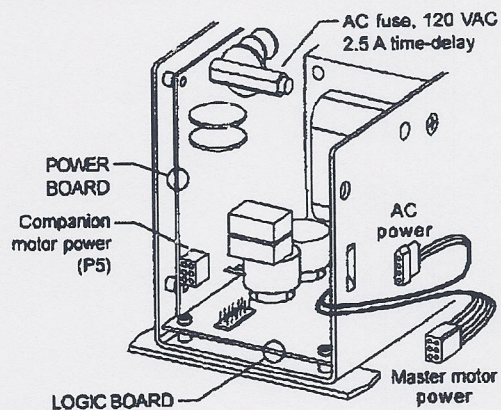
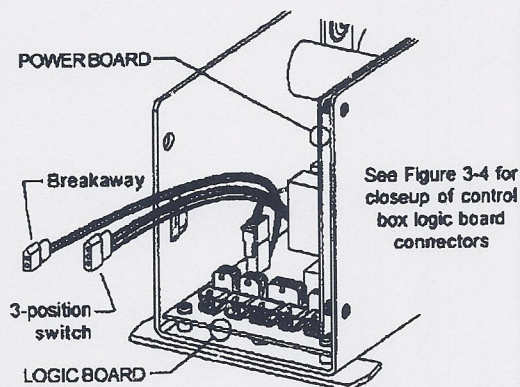
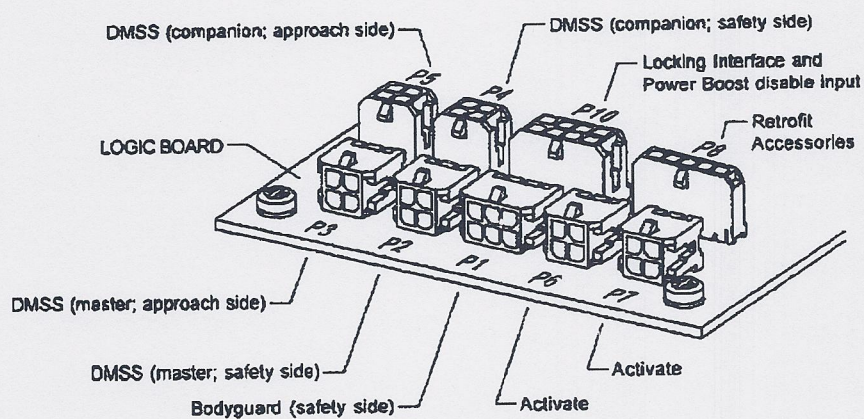

Figure 3-2. Control box power board connectors.
Figure 3-3. Control box logic board connectors.
Figure 3-4. Closeup of control box logic board connectors.
- See Figure 3-2, Figure 3-3, and Figure 3-4 for names and locations of control box connectors.